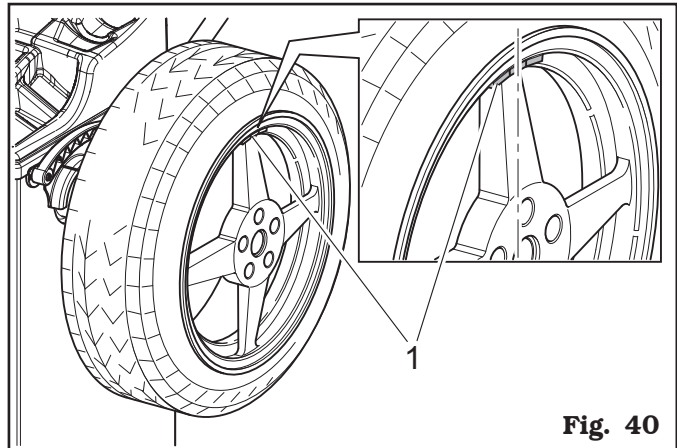

Fig. 40
Fit the adhesive weight on wheel outer side (in the example 25 g). The outer side weight must be positioned **by hand on the vertical** – "at 12 o'clock" (see Fig. 40 ref. 1).